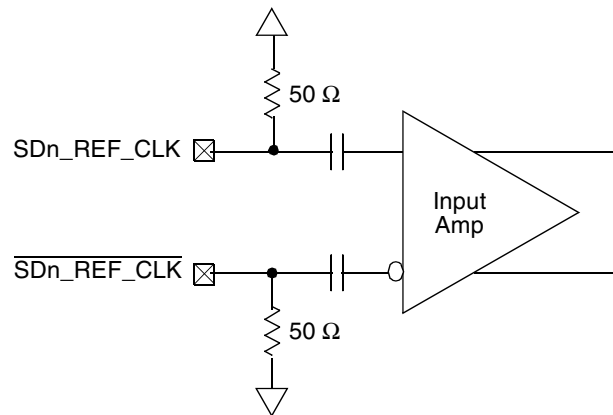

Figure 58. Receiver of SerDes Reference Clocks
Figure 58 shows a receiver reference diagram of the SerDes reference clocks.
- The $\overline{SDn_REF_CLK}$ and $\overline{SDn_REF_CLK}$ are internally AC-coupled differential inputs as shown in Figure 58. Each differential clock input ($\overline{SDn_REF_CLK}$ or $\overline{SDn_REF_CLK}$) has a 50- Ω termination to SGND (xcovss) followed by on-chip AC-coupling.